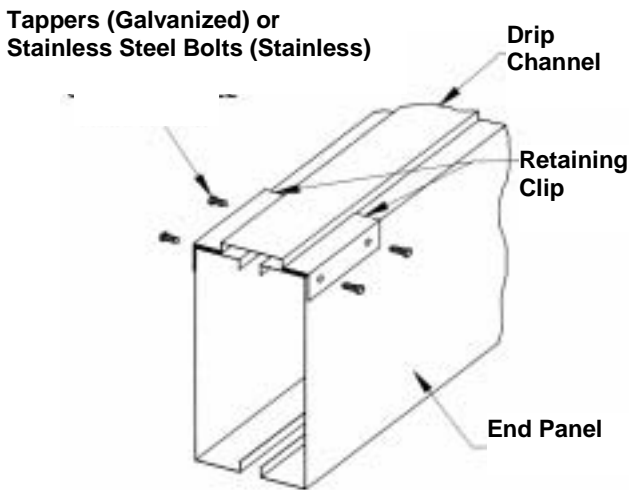

Figure 5 - Drip Channel Installation.
8. Remove the 6 mm bolts which hold the drip channel retaining clips to the end panel. Place the drip channel over the adjoining pan section flanges. Turn around the retaining clips and re-install them using the same hardware. (See Figure 5)